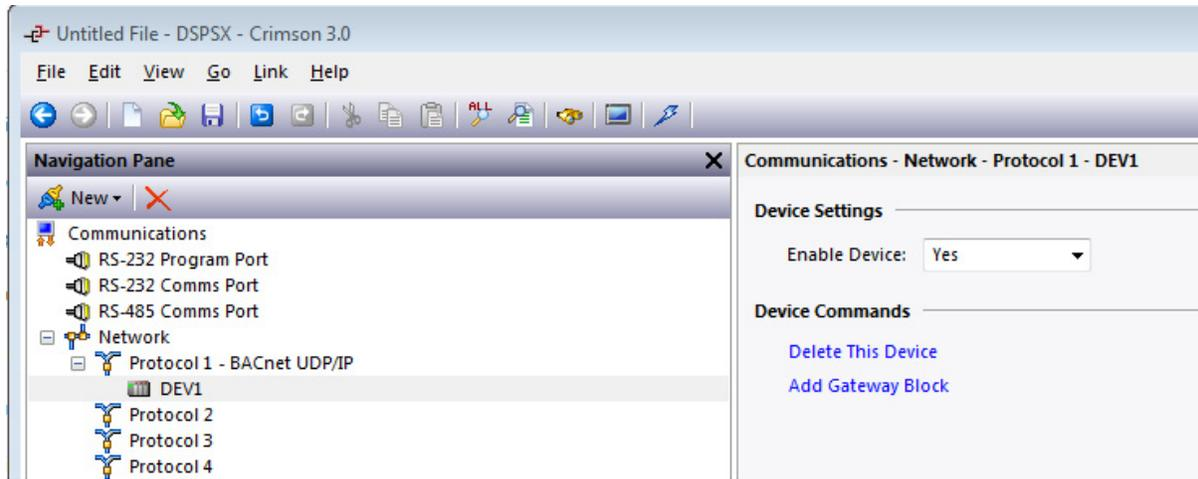

Figure 17.
17. Referring to Figure 17, go to the Navigation Pane and click on the device below the desired port; *DEV1* in this example.